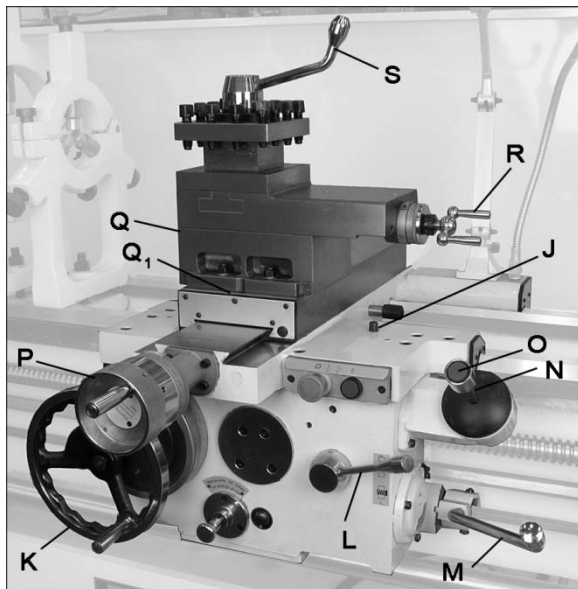

Figure 25 – Carriage controls and settings
- Carriage Lock (J, Figure 25):** Located on top right of carriage. Turn clockwise to lock, counterclockwise to unlock.
- Carriage Handwheel (K, Figure 25):** Located on the apron. Rotate handwheel clockwise to move carriage assembly toward tailstock (right). Rotate the wheel counterclockwise to move carriage assembly toward headstock (left). A scale is mounted to the ring, graduated in 0.05 inch increments, and can be calibrated by loosening the thumb screw lock and rotating the ring as needed. Always re-tighten ring before using the feed.
- Half Nut Lever (L, Figure 25):** Located on front of apron assembly. Engages the leadscrew for threading operations.
- Spindle Direction Control Lever (M, Figure 25):** Move lever to the right so that its tab clears the notch, then down for forward spindle rotation, or up for reverse spindle rotation. *Allow spindle to come to a stop before changing directions.*
- Feed Direction Lever (N, Figure 25):** Left and right moves the carriage in the corresponding directions (longitudinal feed); up and down moves the cross slide (cross feed).
- Rapid Traverse Button (O, Figure 25):** Push for rapid movement in the direction set
12. **Cross Slide Handwheel (P, Figure 25):** Located above apron assembly. Clockwise rotation moves cross slide toward rear of machine. The accompanying scale is graduated in 0.002 inch increments. *Before using rapid feed, disengage this handle by pulling it outward.*
13. **Compound Rest (Q, Figure 25):** Located on top of the cross slide and can be rotated 360° by loosening four nuts (two in front, two in back). There are calibrations in degrees (Q1, Figure 25) to assist in placement of the compound rest to the desired angle.
14. **Compound Rest Handle (R, Figure 25):** Rotate clockwise or counterclockwise to position. The accompanying scale on the collar is graduated in 0.001 inch increments.
15. **Tool Post Clamping Lever (S, Figure 25):** Rotate counterclockwise to loosen and clockwise to tighten. Always use minimum of two clamping screws to secure a cutting tool.